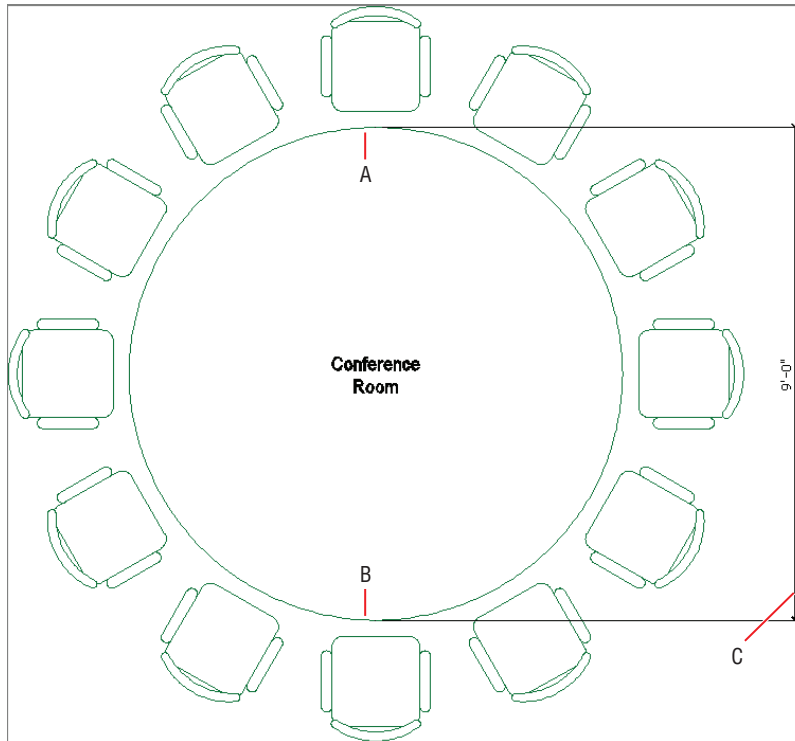

FIGURE 13.21 Drawing a dimension in paperspace
-  6. Right-click the Object Snap icon in the status bar, and toggle on quadrant snap. Click the Linear tool in the Annotation panel, and click points A, B, and C as shown in Figure 13.21. Points A and B are on the quadrants of the circle. A dimension measuring 9'-0" (274 for metric) appears on the layout in paperspace that looks similar to the dimension you drew earlier in this chapter in modelspace.